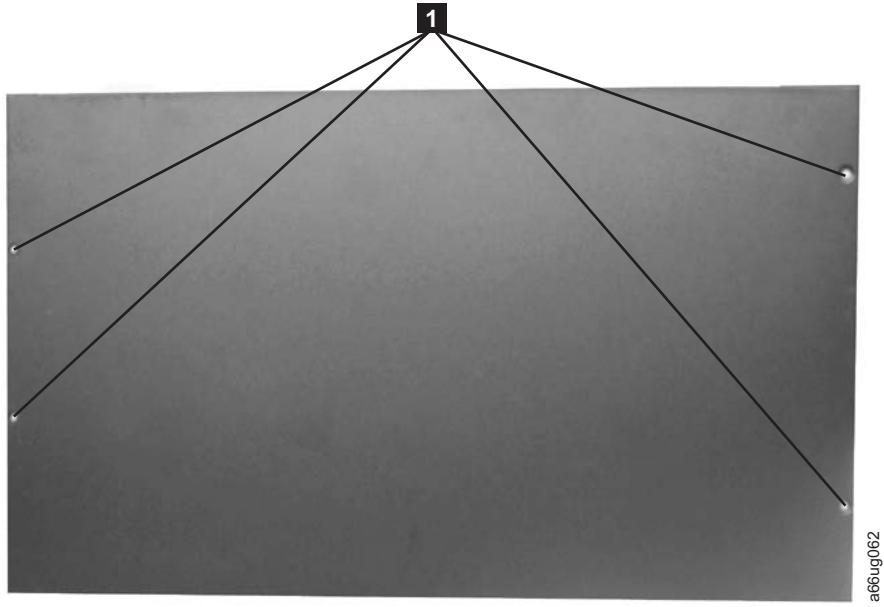

Figure 4-16. Top cover of the 5U control module
1. Remove the 4 - #2 Phillips top cover screws (**1** in Figure 4-16 on page 4-14).
4. Install the top cover on the expansion module, with the 4 - #2 Phillips screws (**1** in Figure 4-16).